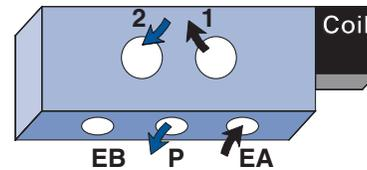

Figure 4: Air Flow Pattern (Air Failure to Port 1)
4. **For Spring Return Actuator (Figure 4):** In the event of air failure to the inlet port "P", the loaded springs in the actuator are released. Exhaust air flows out of the actuator to port "2" and out of the solenoid valve through port "P". Atmosphere air flows from port "EA" to port "1" then into the actuator spring chamber.